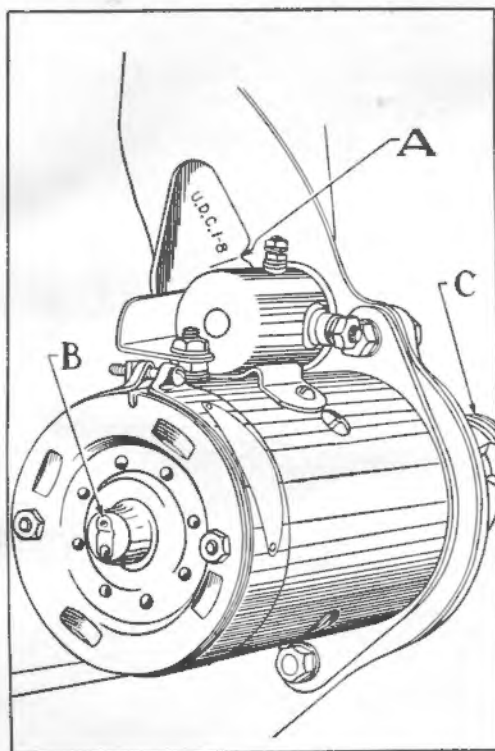

Figure 4
To determine this, remove the spark plug from number one (front) cylinder. Place the finger over the spark plug hole and crank the engine slowly, using the hand crank. Air pressure against the finger indicates that the piston is coming up on the compression stroke. After this is felt, continue cranking the engine slowly until the mark "U. D. C. 1 and 8" is directly in line with the pointer on timing inspection hole in the rear support plate of the motor as indicated at (A), Figure 4. The piston
The front bearing of the starting motor should be lubricated at (B), Figure 4, with a few drops of light oil every 1,000 miles.
The threads of the Bendix screw shaft (C), Figure 4, should be cleaned occasionally with a brush and kerosene to remove gum and dirt.